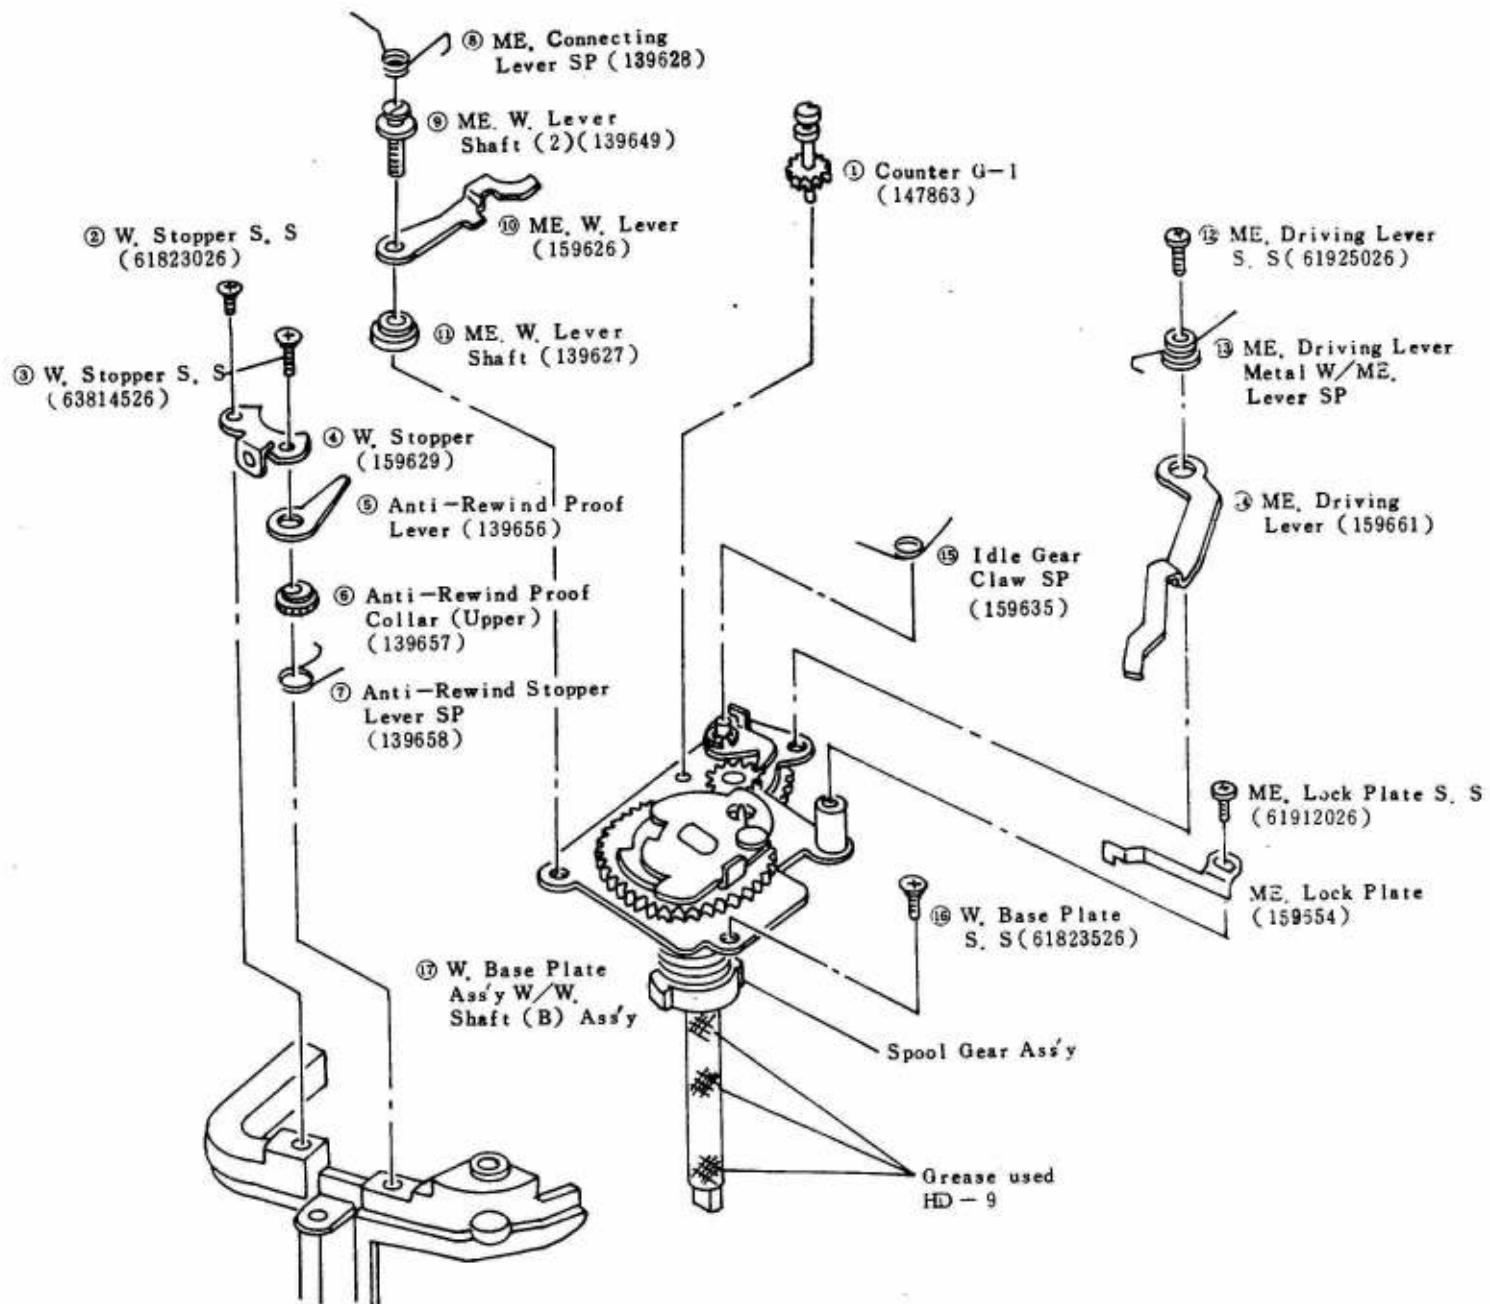

Fig 27
c) Remove the respective parts ① ~ ⑯ shown in (Fig 27) in numerical order.